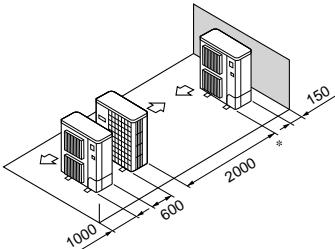

Fig. 2-13
⑤ Single parallel unit arrangement (Fig. 2-13)